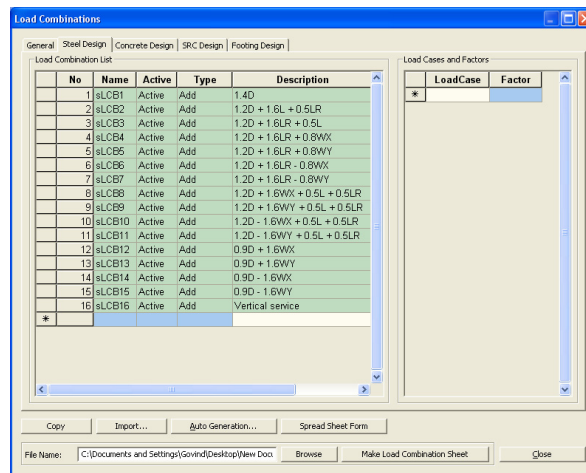

Figure 2.28 Load Combinations
8. Enter additionally **sLCB16** as shown in Fig.2.28.